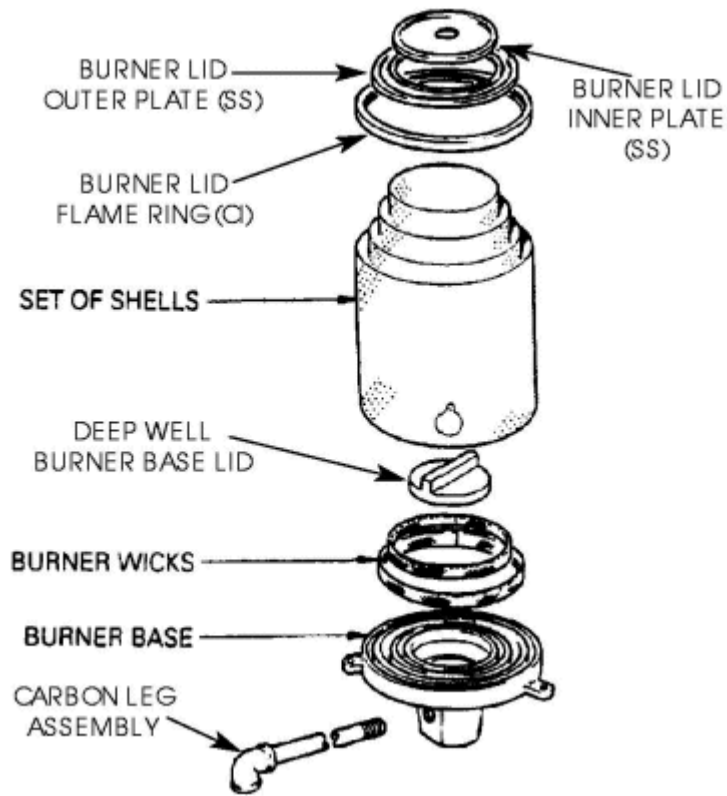
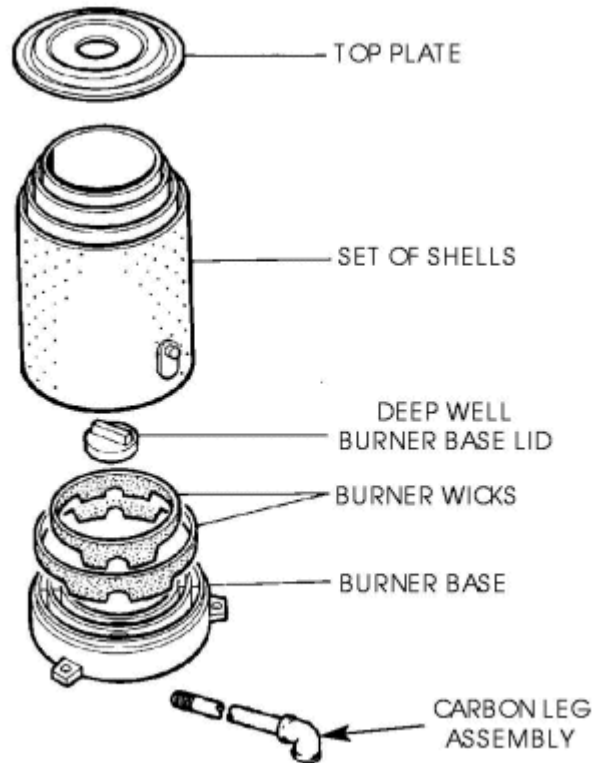

Fig.8 Burner assembly - 308K Boiler Model DESN 511029
Fig. 8A Burner assembly - 300K Non-Boiler Model
5. Coat the male thread of the oil burner pipe assembly elbow with oil resistant jointing compound and screw into the burner base, check position of elbow. See Fig.8 (Boiler Model) or Fig. 8A (Non-Boiler Model).
**NOTE:** ENSURE 'CUT-OUTS' ON BURNER WICKS LINE UP WITH OIL CHANNELS ON BURNER BASE (SEE FIG. 8).